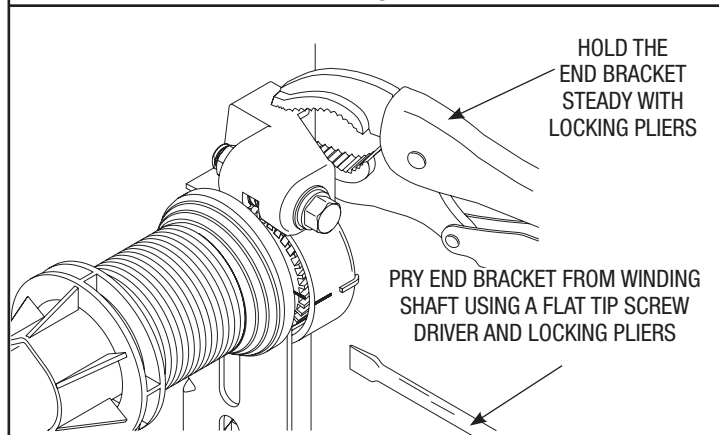

Fig. 7
**Step 6:** Holding the right hand end bracket steady with locking pliers, carefully pry the end bracket and drive gear off the winding shaft using a flat tip screwdriver (Fig. 7).
**Step 7:** Repeat Step 4 for the left hand side. Holding the left hand end bracket steady with locking pliers, carefully pry the end bracket off the winding shaft using a flat tip screwdriver (Fig. 7).